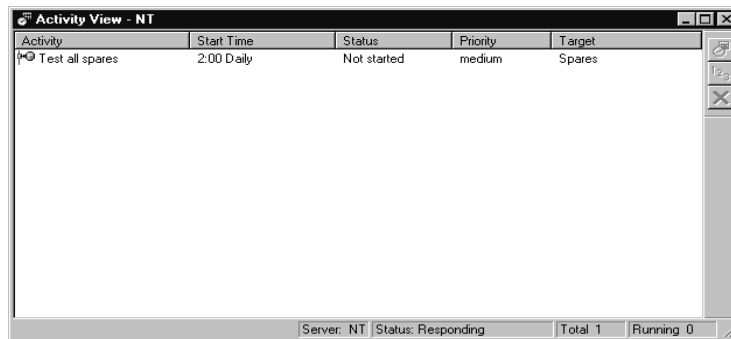

Figure 8-2. Activity View Window
- 1 Click  on the main toolbar to open the Activity View window, as shown in Figure 8-2.